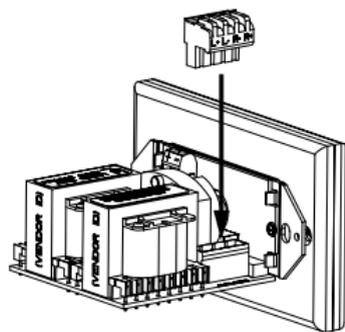

Figure 5
ductor plug is keyed. Insert the smooth side of the connector plug into the smooth side of the socket. Don't force the scalloped side of the connector plug into the smooth side of the socket. See **Figure 5**.
6. Plug the connectors into the volume control as shown in **Figure 5**. The inputs of the IM volume control are the connector pins labeled AMPLIFIER. The outputs are the connector pins labeled SPEAKERS.